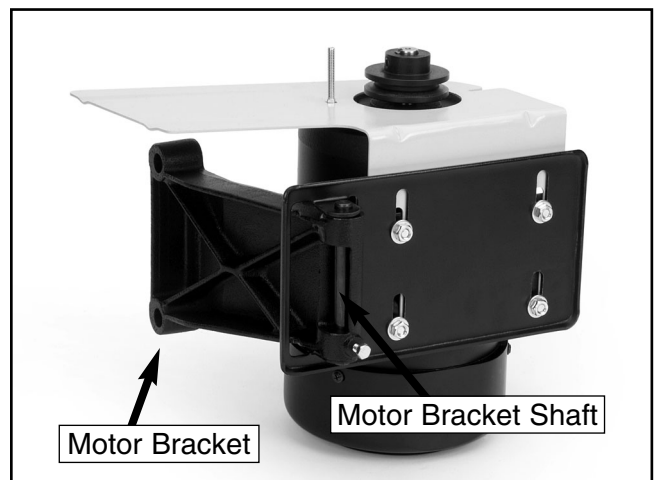

Figure 20. Installed motor bracket.
- Secure the motor plate to the motor bracket with the motor bracket shaft (**Figure 20**). Note—*The hex bolt on the motor bracket must align with the groove on the motor bracket shaft.*